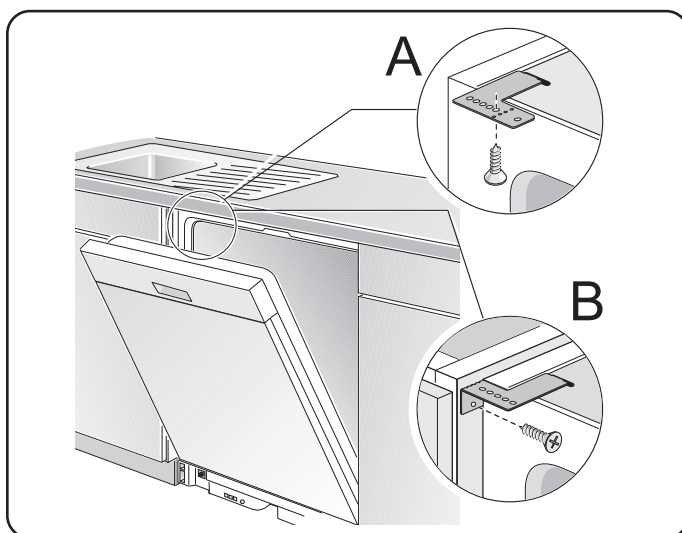

Figure 11
1. **Top Mount** is used for countertops made of wood or other materials that can easily be drilled. Orient the mounting brackets as shown in Figure 11, letter A, and position the two small tabs on the mounting brackets over the two slots on the dishwasher's front corners. Push the mounting brackets down firmly to insert the tabs into the slots.
2. **Side Mount** is used for countertops made of marble, granite, or other very hard materials that cannot be easily drilled. Bend the mounting brackets along the small holes and in the same direction as the two small tabs. Orient the mounting brackets as shown in Figure 11, letter B, and position the two small tabs on the mounting brackets over the two slots on the dishwasher's front corners. Push the mounting brackets down firmly to insert the tabs into the slots.